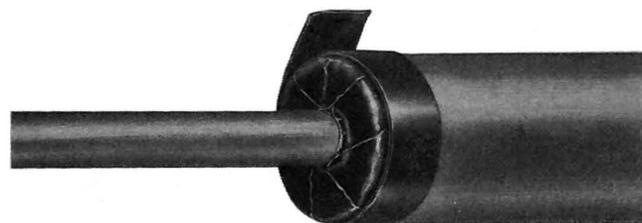

Fig. 12—Taping End Plate
**3.07** Starting at the top of the end plate, make two complete turns of tape around the sleeve, binding down the strips that have been placed over the wiped joint. Then apply one half-lapped layer of tape across the sleeve, finishing with two full turns of tape. Do not stretch the tape during application (Fig. 12).